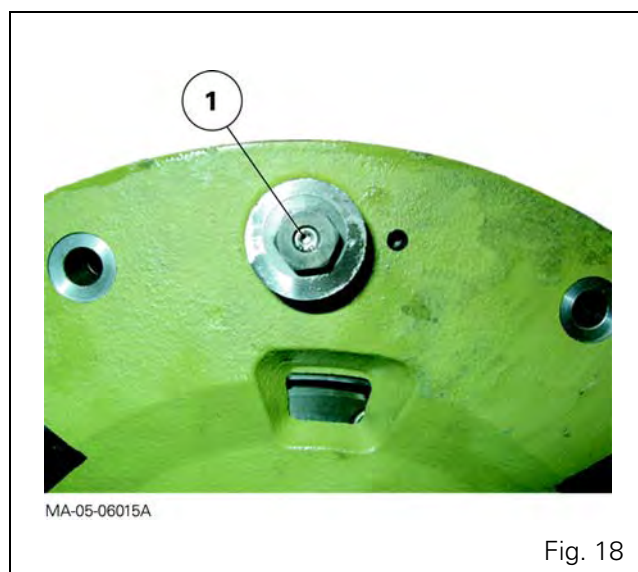

Fig. 18
69. Remove the large springs (62) and the pins (71).
70. On the cover plate (38), remove:
- the plate (43),
- the seal (42) and discard it,
- the piston (39),
- the seals (36) (41) and discard them,
- the unions (72), the valve (1) (Fig. 18) and the seal (75) from the 17 bar supply port (Fig. 3).
95. On the external face of the cover plate (38), fit three sufficiently long and equally spaced studs in the holes provided for the screws (64).
96. Refit and position the cover plate, with the port of the valve (1) facing upwards (Fig. 18).
97. Before fitting the screws (70), it is **mandatory** to check that the spools (44) slide freely in each compartment of the front cover plate on the input unit. To do this, compress the springs (45), using a screwdriver passed through the tapped holes of the unions (72). If the springs cannot be compressed, investigate the cause.
98. Pre-tighten the screws (70).
99. During pre-tightening, check that the spools (44) still slide freely. Also check that each end of the (large) springs (62) is correctly housed in its respective seat.
101. It is **mandatory** to fit and tighten the valve (1) fitted with its seal to 6 - 8 Nm max. (Fig. 18). Screw in the unions (72).